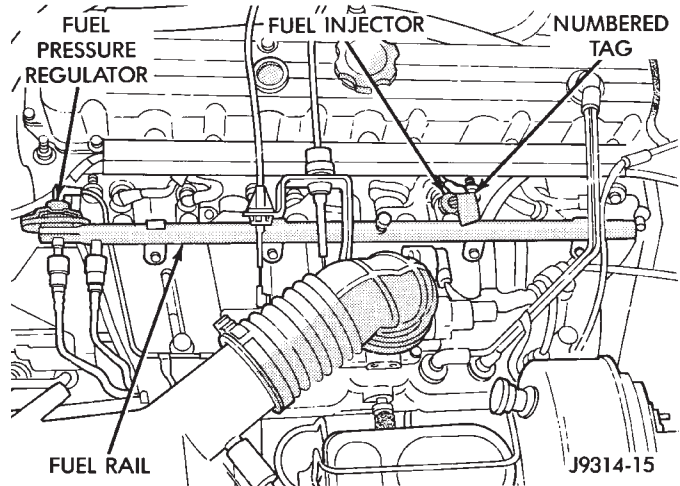

Fig. 7 Fuel Injector Harness—Typical
- (1) Remove fuel tank filler tube cap.
- (2) Disconnect the negative battery cable from battery.
(3) Perform the Fuel System Pressure Release Procedure as described in the Fuel Delivery System section of this Group.
(4) Remove and numerically attach a tag (if fuel injector is not already tagged), the injector harness connectors. Do this at each injector (Fig. 7).
(5) Disconnect vacuum line from fuel pressure regulator (Fig. 7).
(6) Disconnect fuel supply tube from fuel rail and the fuel return tube from fuel pressure regulator (Fig. 7). Refer to Fuel Tubes/Lines/Hoses and Clamps, or Quick-Connect Fittings. These can both be found in the Fuel Delivery section of this group.
(7) Remove fuel rail mounting bolts.